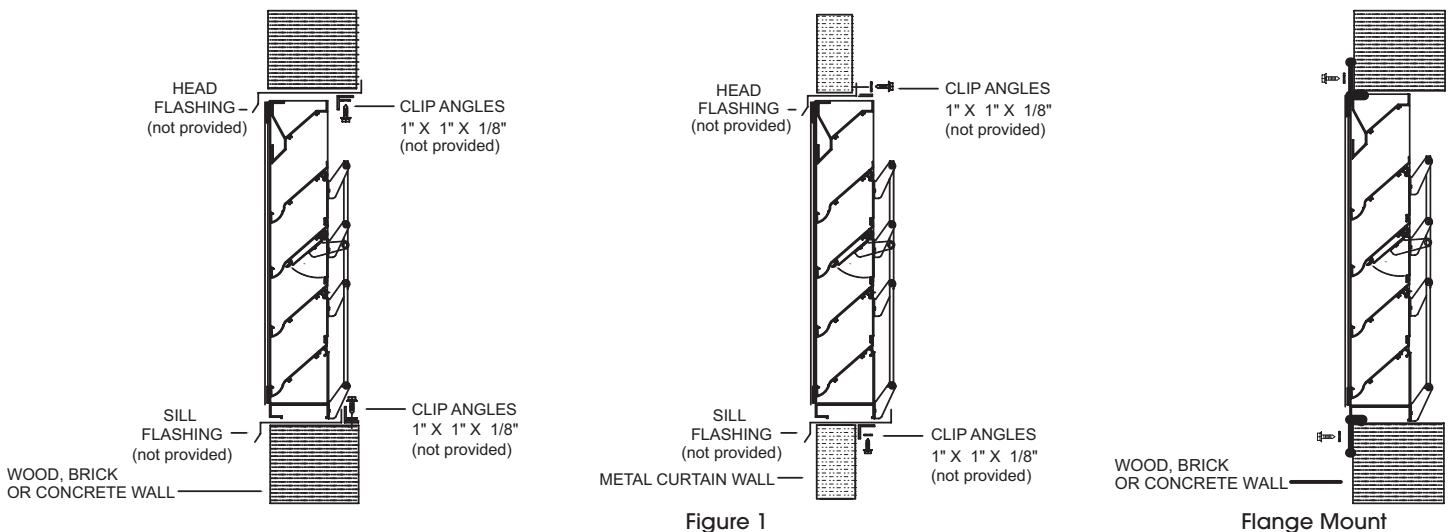

Figure 1
3. Install head and sill flashing (not provided) if needed in wall opening as per Figure 1.
4. Use clip angles (not provided) to attach frame to walls or secure through the flange with fasteners (not provided) as per Figure 1.